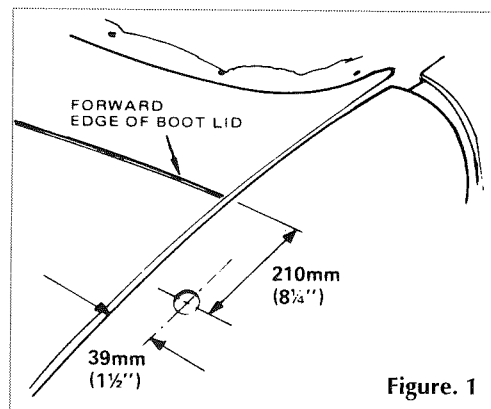

Figure. 1
Aerial Mountings (Figs. 1 and 2)
1. Mark out the position of the Aerial hole as seen in Fig.1.